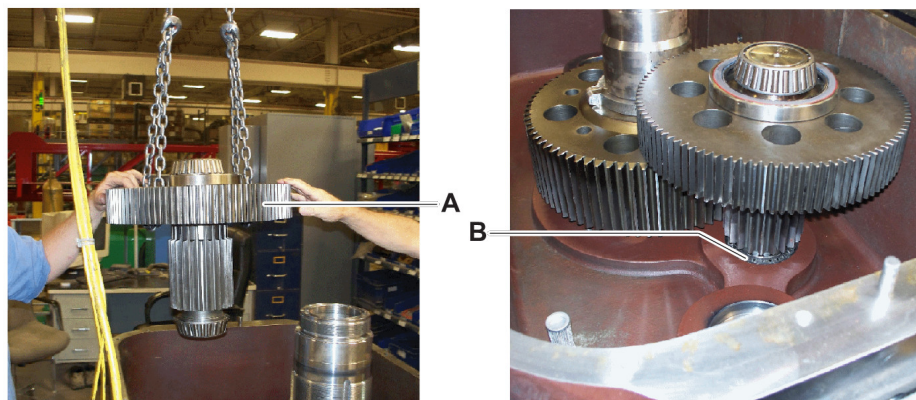

Figure 3
6. Attach the intermediate shaft subassembly (Figure 3, item A) to the hoist with the lift chains. Lower the intermediate shaft subassembly carefully down into the pre-greased lower intermediate bearing cup (item B). Repeat for the other subassembly.